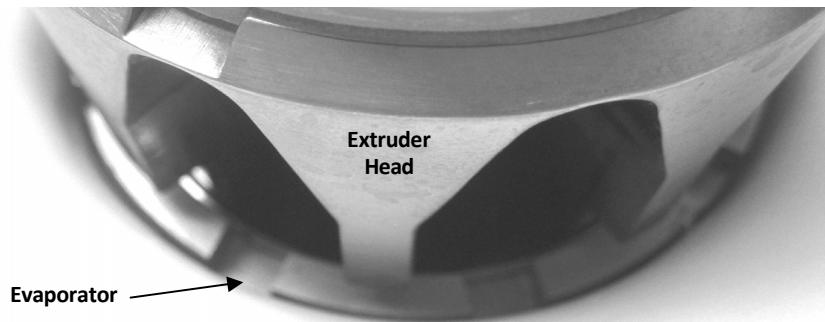

Figure 5.
2. When the auger is lowered into the evaporator, rotate the auger to engage the motor drive shaft, as shown in Figure 5.